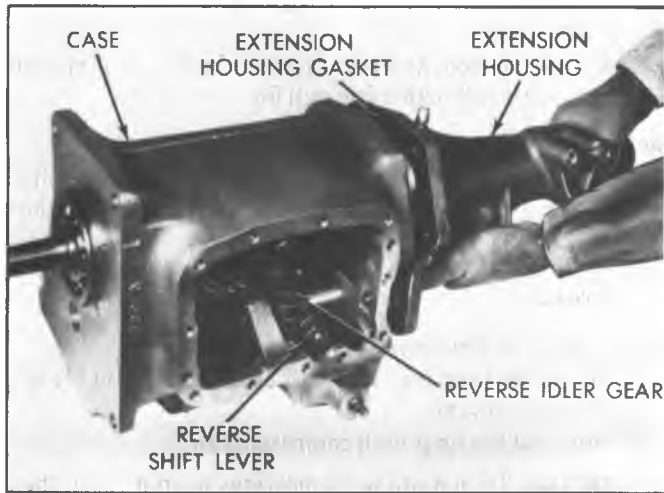

Fig. 4R--Remove or Install Extension Housing and Mainshaft Assembly
11. Slide third and overdrive (O/D) synchronizer sleeve slightly forward, slide reverse idler gear to center of its shaft, then using a soft faced hammer, tap on extension housing in a rearward direction. Slide housing and mainshaft assembly out and away from case. Refer to Fig. 4R.